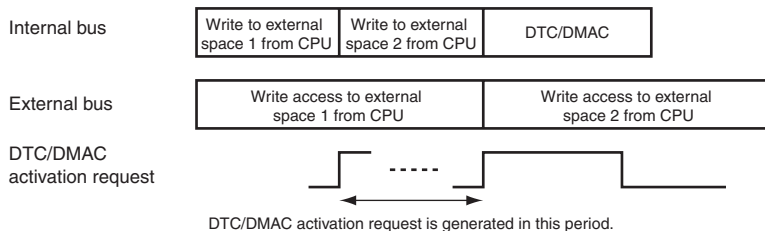

Figure 9.50 Bus Arbitration when DTC or DMAC Activation Request Occurs during External Space Access from CPU
In addition, because the write buffer operates as described in 9.5.14 (2), Access in View of LSI Internal Bus Master, arbitration between the CPU and DTC/DMAC is different depending on whether the external space access by the CPU is a write or read access. Figure 9.50 shows the bus arbitration when a DTC or DMAC activation request is generated while an external space is accessed by CPU.